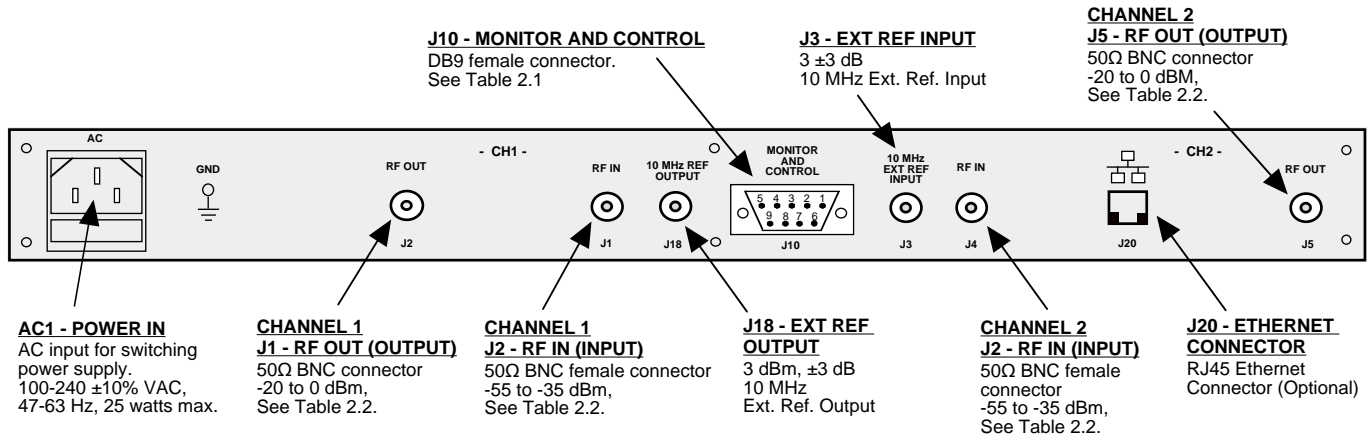

FIGURE 2.1 3116-22-23# Rear Panel I/O's
Figure 2.1 shows the input and output connectors on the rear panel.
1. Connect a -55 dBm to -35 dBm signal to RF IN, J2 (Figure 2.1).